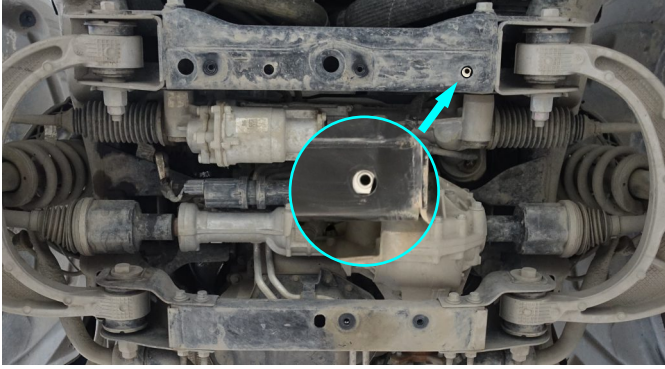

Fig. 6
6. Install insert nut M10x65x20 (item A) as shown in fig.6.